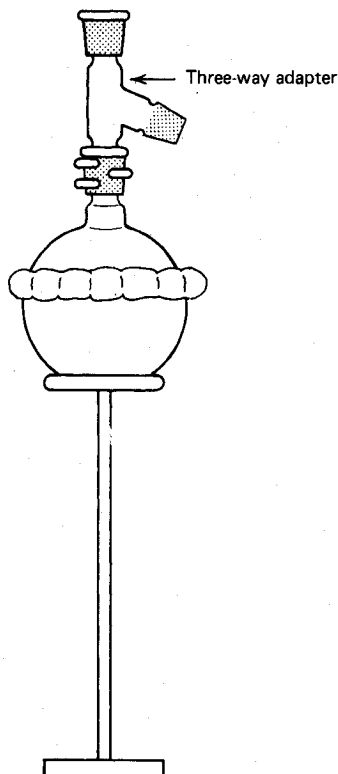

Fig. 69 Clamps and flask and three-way adapter.
4. Add the 3-way adapter now (Fig. 69). Thermometer and thermometer adapter come later.